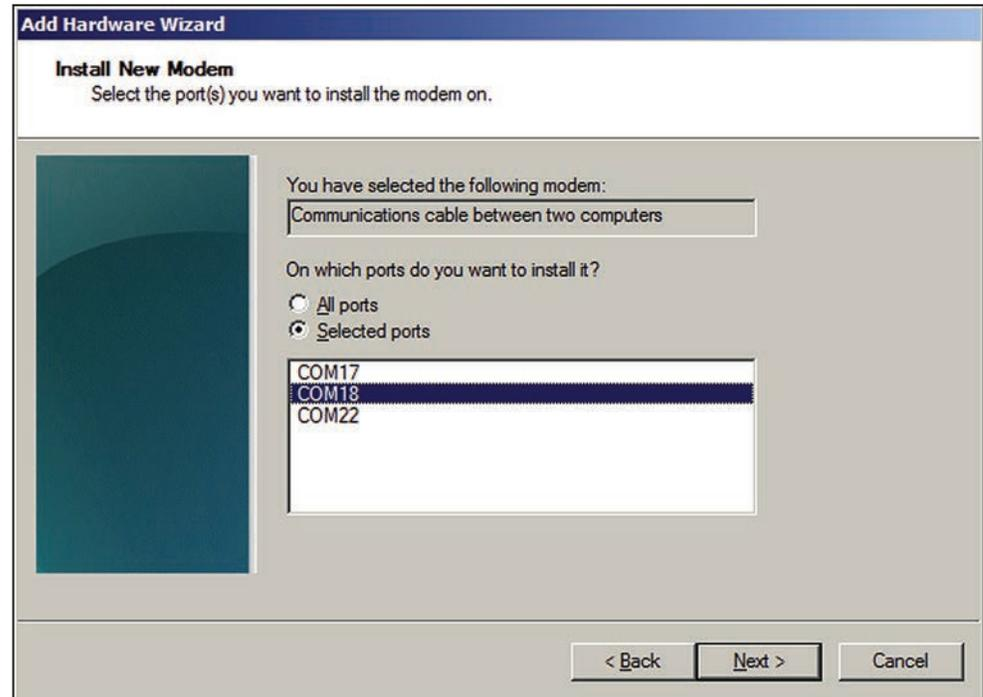

Figure 6. The Add Hardware Wizard dialog box showing the modem port selections.
STEP 6. Select “COM18” for the Wi-Fi connection, and click on the **Next** button. See Figure 6. COM18 will not be available if the Wi-Fi connection to the IntelliRupter fault interrupter is not established and running.